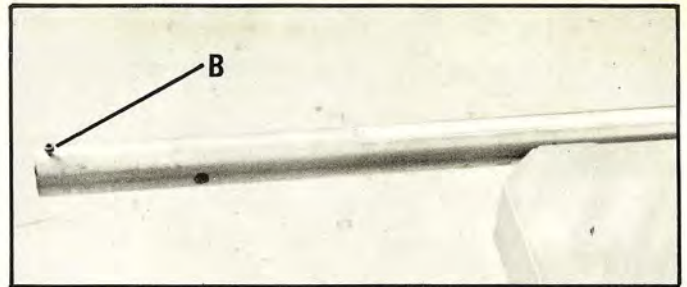

Fig. 12
1. Remove stop screw (B) Fig. 12.